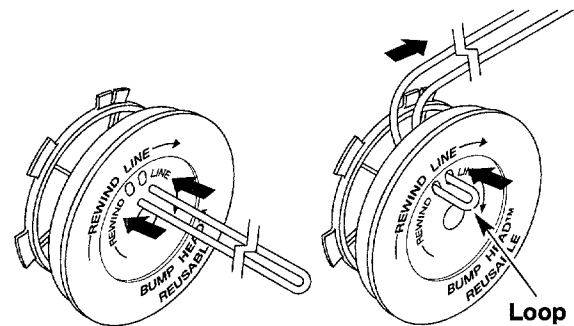

Figure 25
- Take approximately 25 feet (7.6 m) of new trimming line, loop it into two equal lengths. Insert each end of the line through one of the two holes in the inner reel. Pull the line through the inner reel so that the loop is as small as possible. See Figure 25.